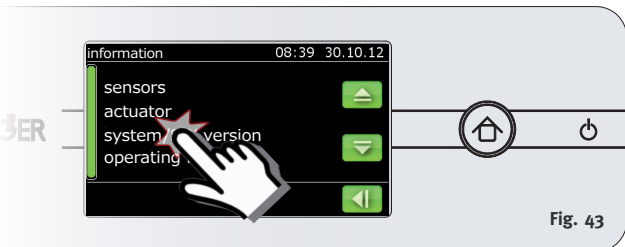

Fig. 43
1. Select Information menu --> system/SW version in the main menu (Fig. 43).